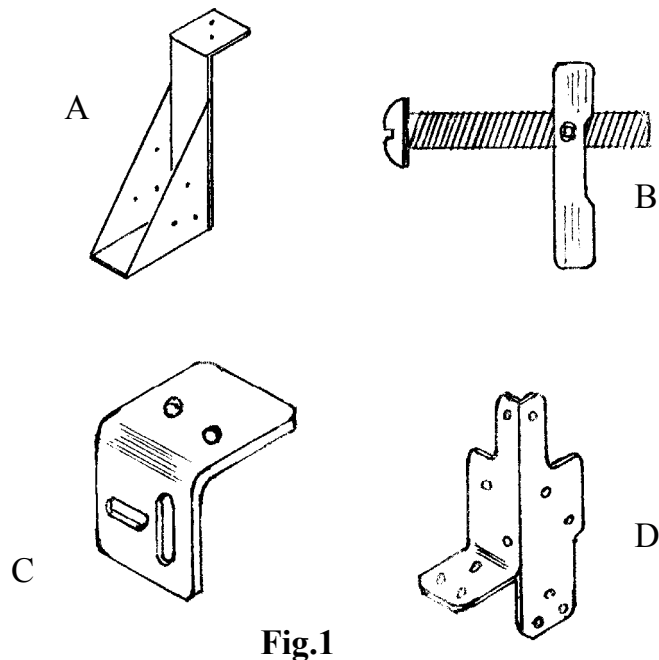

Fig.1
12. Name **THREE** of the items shown in Fig.1 stating where each may be used :-